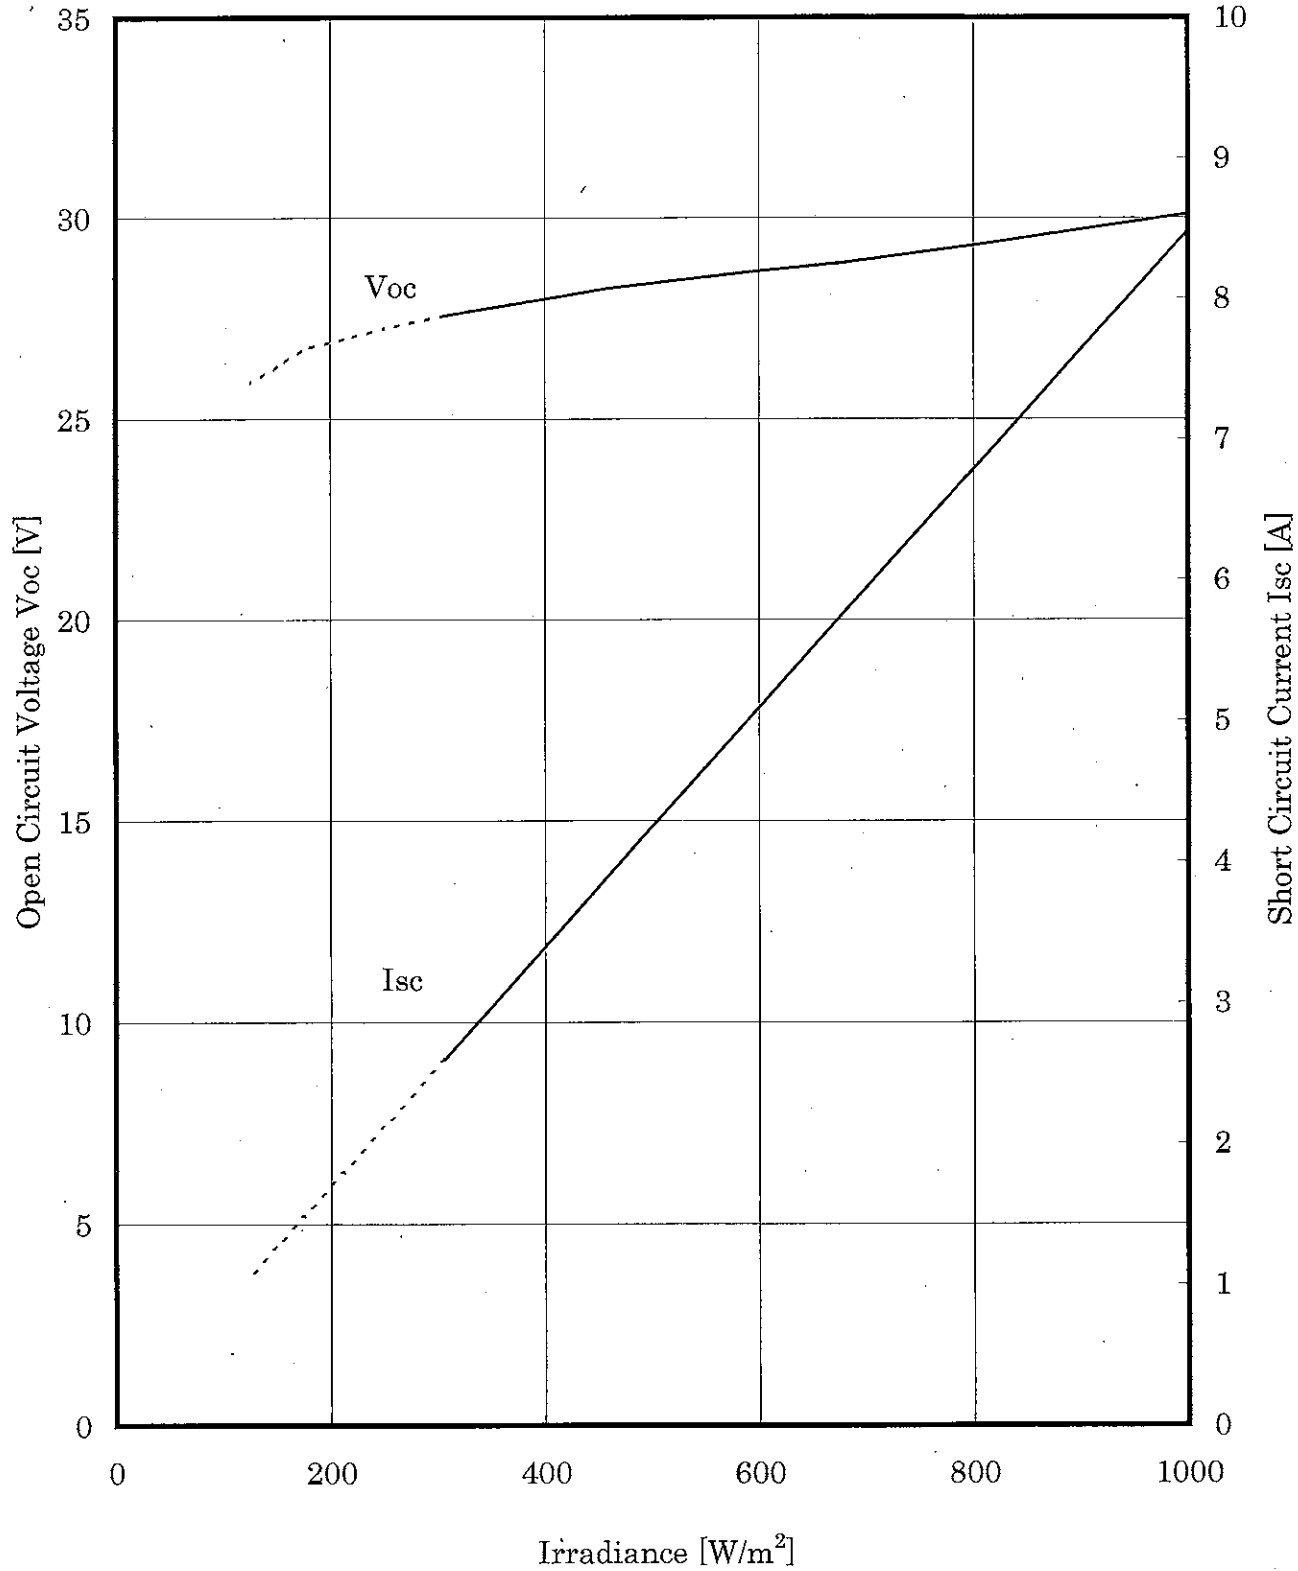

Fig. I -1 Open Circuit Voltage , Short Circuit Current vs. Irradiance Characteristics
- (1) Fig. I -1:Characteristics regarding Open circuit voltage and short circuit current versus Irradiance